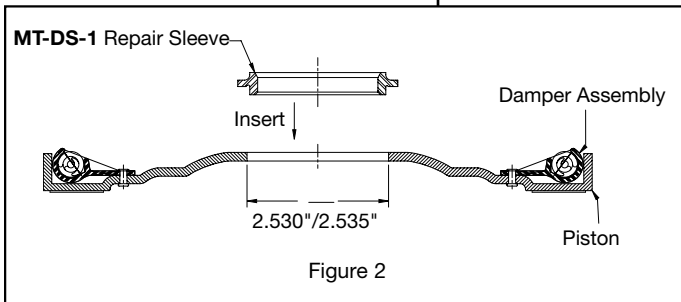

Figure 2
2. Bore the inside diameter to 2.530"/2.535" (64.26mm/64.39mm) to accept repair sleeve (Figure 2).
3. Machine surface directly adjacent to the I.D. bore (Figure 2) to ensure a flat mating surface for the new Sonnax repair sleeve **MT-DS-1**.